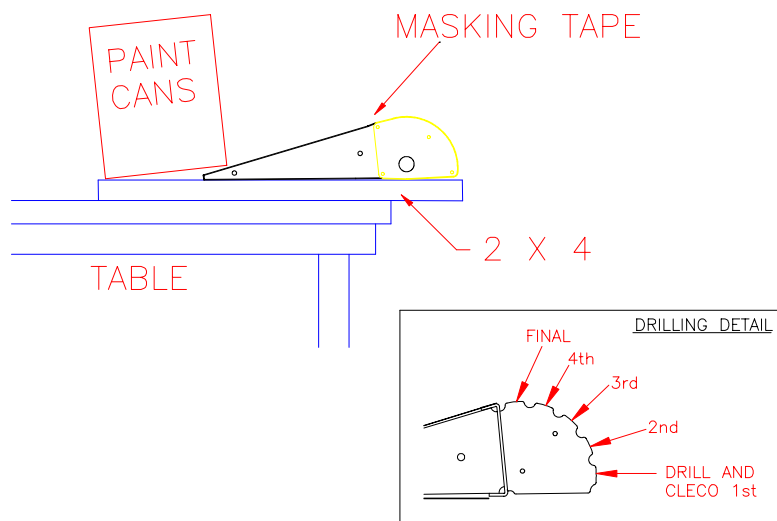

Figure 6.4.3
8) Attach the Leading Edge Ribs to the Flap Skin, working from the center toward each end, and from the bottom of the nose to the Flap Spar. Drill and cleco as you go. Masking tape or packing tape may be used to assist in pulling the skin around the Leading Edge Ribs. The center lines on the ribs should be visible through the holes in the skin. Use a sharp #40 drill bit and press lightly. The rib tabs bend easily. Figure 6.4.3.